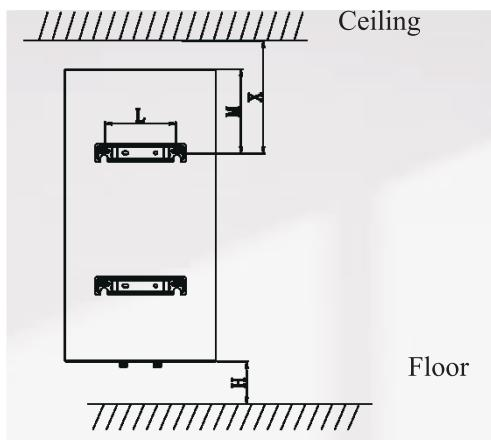

Fig.3
3. Insert the expansion screws, make the hook upwards, tighten the screws to fix firmly. (see Fig.3)